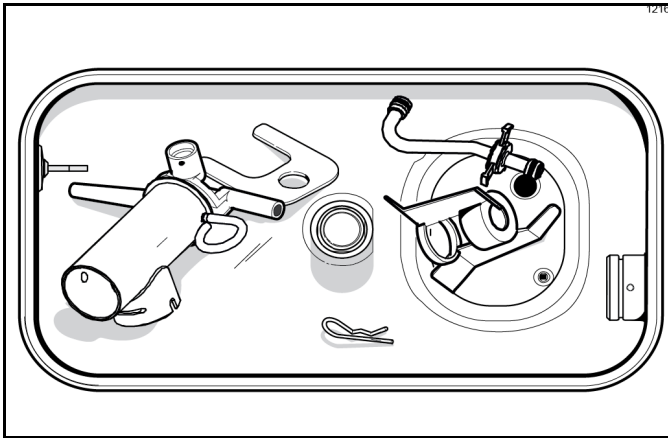

Figure-154
12. Lay the pump assembly, pump clip, cotter pin, and agitator in the bottom of the mix hopper for sanitizing. (See Figure-154.)